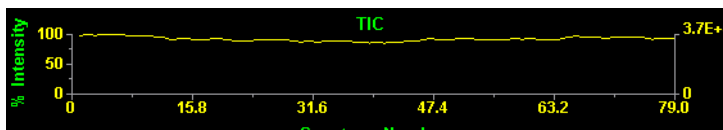
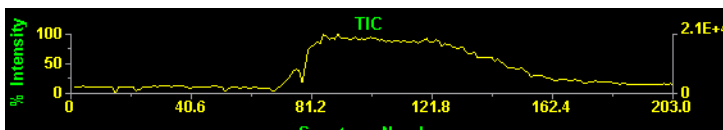

Figure 5-7 Example Microspray or Low-Flow Electrospray Infusion TIC Data
Figure 5-8 Example Microspray or Low-Flow Electrospray Loop Injection TIC Data
6. Continue repeating step 2 through step 5 to maximize signal intensity and stabilize the TIC (Figure 5-7 and Figure 5-8). Note the following guidelines:
Figure 5-7 and Figure 5-8 represent typical TIC data for microspray and low-flow electrospray applications.